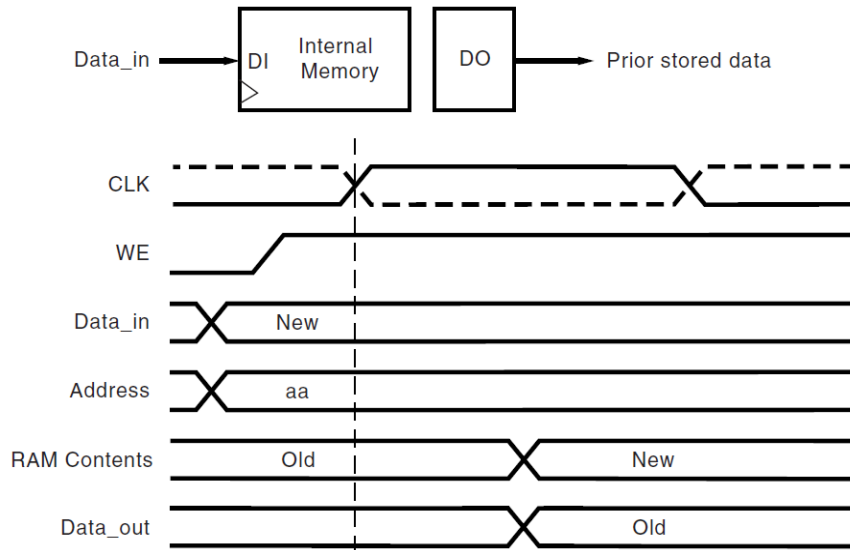

Figure 25 READ\_FIRST Mode
The READ\_FIRST option is a read-before-write mode. The same clock edge that writes data input (DI) into the memory also transfers the prior content of the memory cell addressed into the data output registers DO, as shown in Figure 25